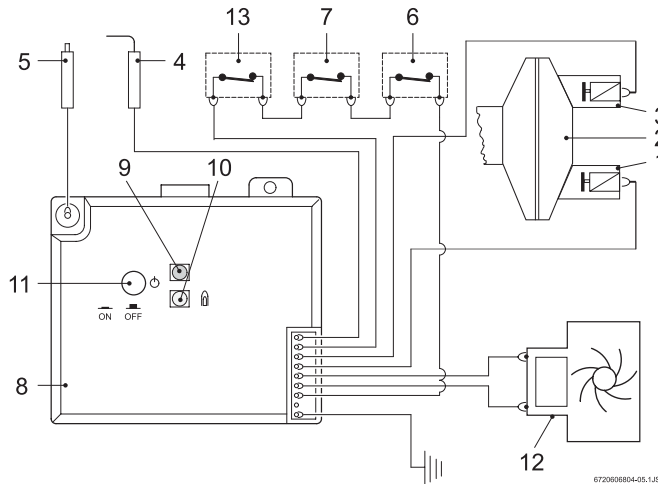

Fig. 13 - Electrical wiring diagram
### **4. Pilot electrovalve switch may need to be replaced (See Fig 13).**
Measure milivoltage at pilot electrovalve (see Fig. 13).
### **5. Electronic Control Box may need to be replaced (See Fig 13).**
Check wire connections and test operation of electronic control box (see Fig. 13).
Measure millivoltage at burner electrovalve (see Fig. 13).
- 4. The Electronic Control Box (Fig. 13) may need to be replaced.**